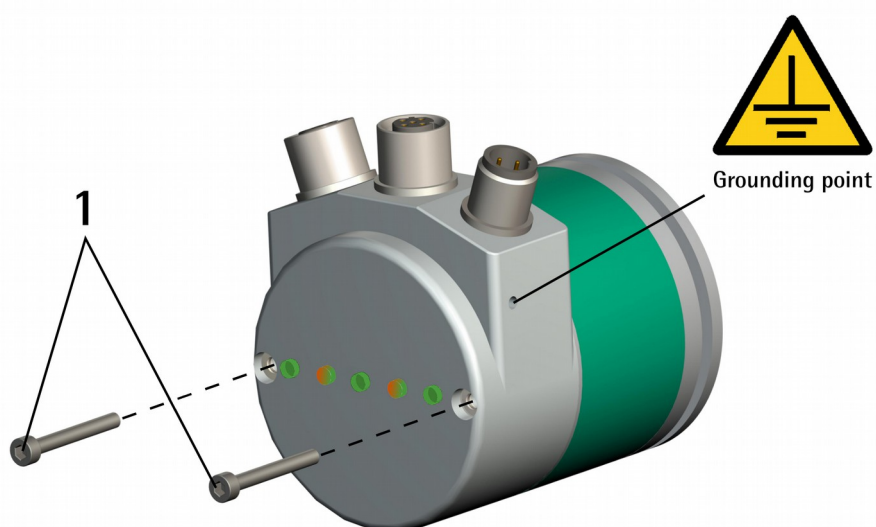

Figure 2 - Removing the connection cap
To access the DIP A dip-switch meant to reset the network configuration parameters to the factory values (default values) you must remove the connection cap. For any information on removing the connection cap please refer to the following "4.10 Connection cap (Figure 2)" section.
- remove the connection cap as explained in the following "4.10 Connection cap (Figure 2)" section;
- replace the connection cap as explained in the following "4.10 Connection cap (Figure 2)" section;
4.10 Connection cap (Figure 2)